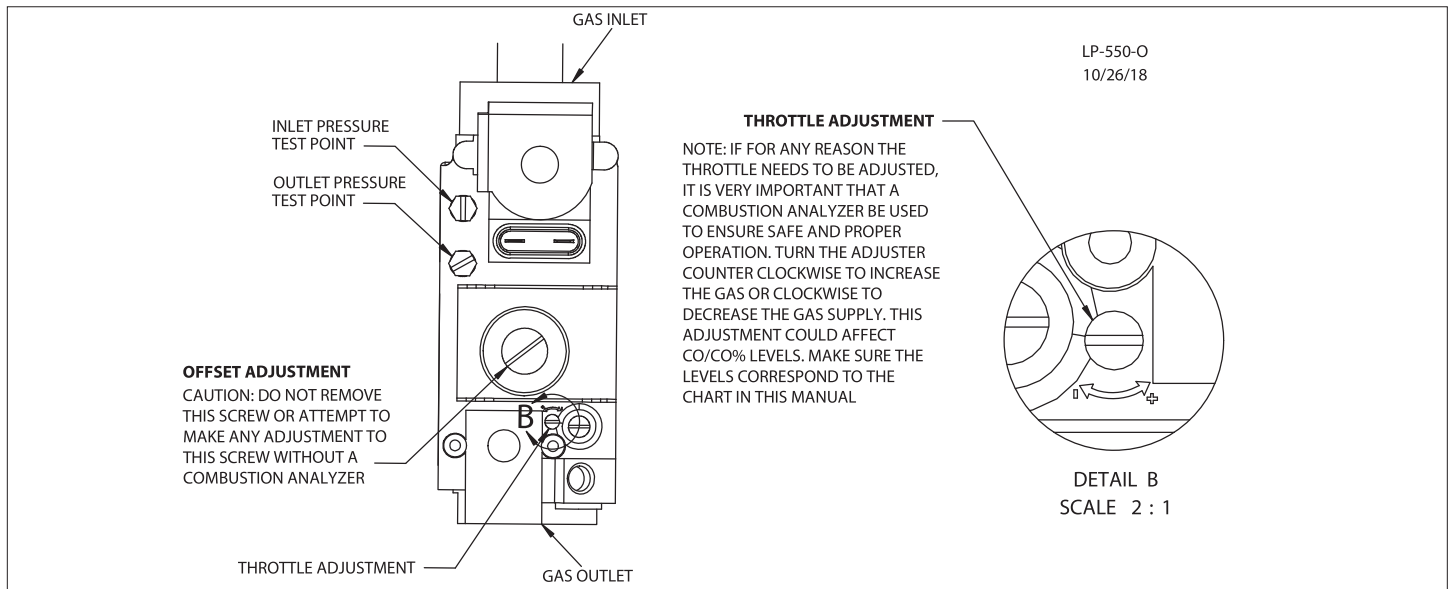

Figure 46 - 400 and 500 Model Gas Valve
2. Loosen the pressure tap with a small screwdriver. Refer to Figures 46 and 47 for location.